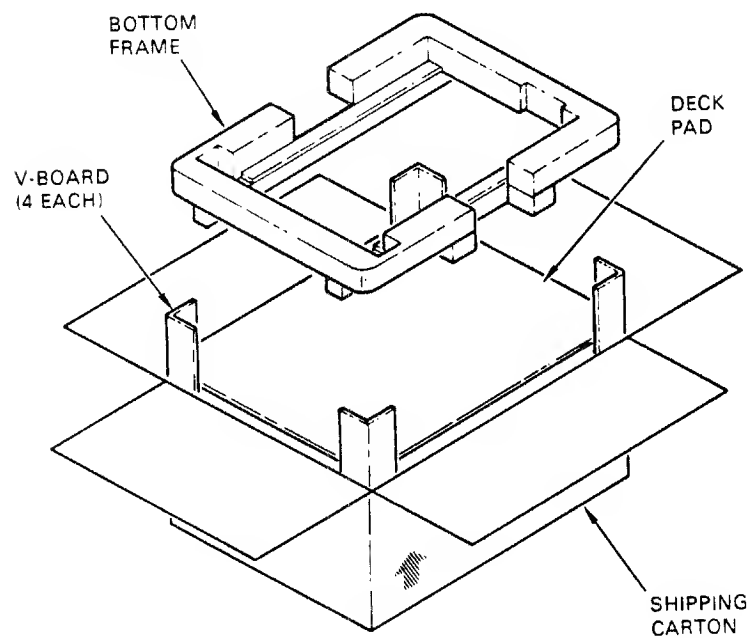

Figure 5.
5. Place the bottom frame into the bottom of the carton. Insert the V-boards into each corner of the carton. See Figure 5.